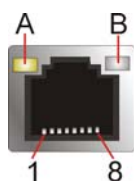

Figure 3-24: Ethernet Connector
- CN Pinouts:** See Figure 3-24 and Table 3-24